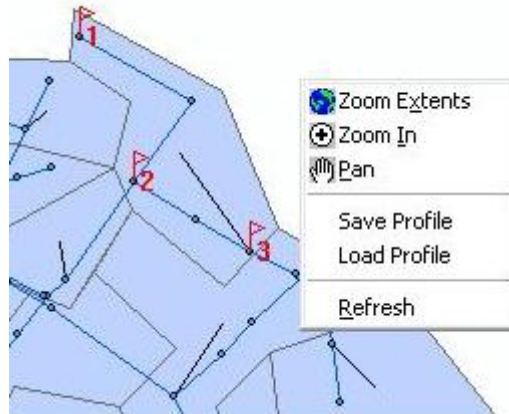

Figure 23.35 The flags defining the path of the profile plot have been set
- Now continue until the path is well-defined. The horizontal plan will then look as seen in Figure 23.35. If you choose 'Save Profile' from the local menu on the horizontal plan the profile path is saved to a .profile file with a user defined name. A profile path can be loaded again by using 'Load Profile' in the local menu.